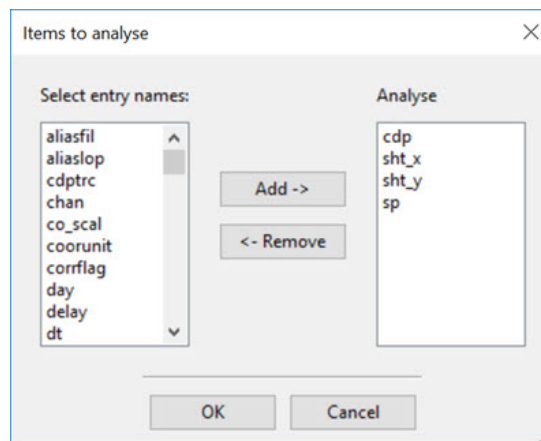

Figure 3-17 Items to analyse add/remove box
2. Click the **Add/Remove items** button. An *Items to analyse* box pops up. Select **header entry names** and **add/remove** as required (Figure 3-17 on the next page). Click **OK**.